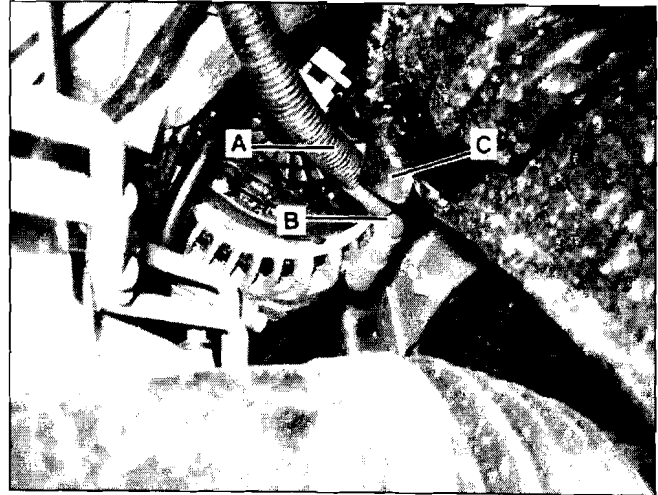

Figure 1
2. Inspect starter wiring harness corrugated tube (A, Figure 1) and red insulation (B) for damage in area of engine support shield (C).